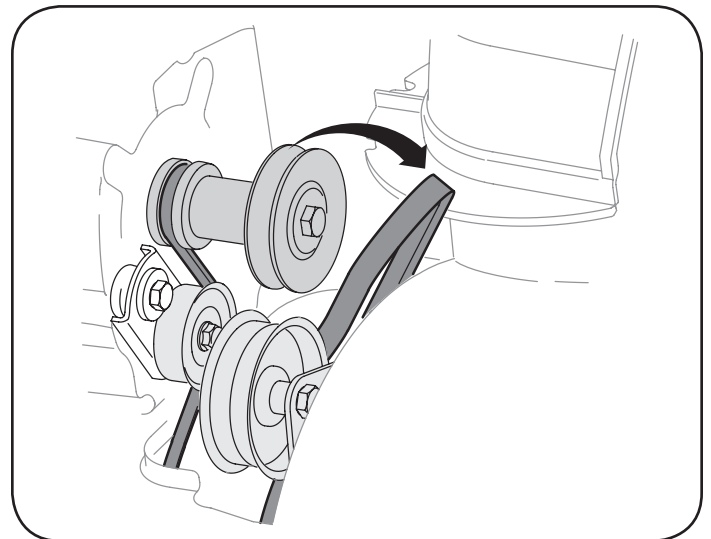

Figure 68
3. Roll the auger belt off the engine pulley. See Figure 68.